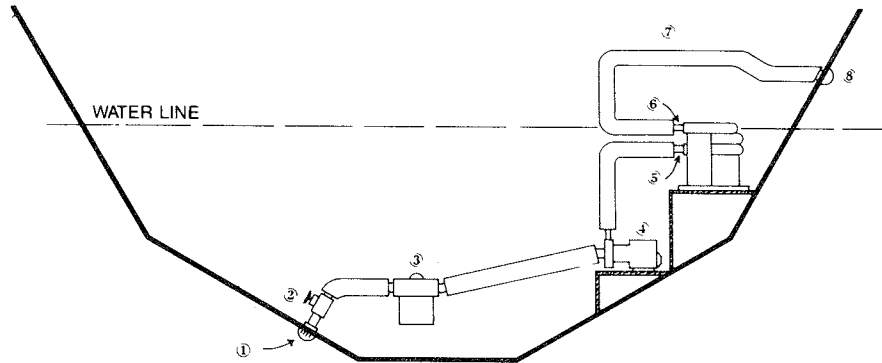
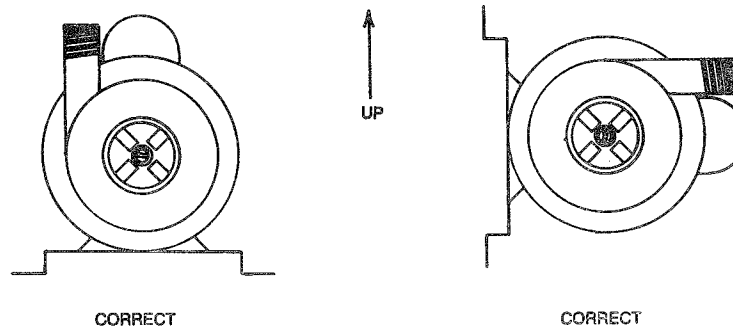

FIGURE 1
FIGURE 2
The AQ-30, AQ-30-2(C) and the AQ-60 come equipped with their own internal chillwater pump. The only time that an external chillwater pump is used is when two or more chillers are manifolded together. In this application, the internal chillwater pumps are used solely to pump water through the chiller coil itself and then on to the chillwater manifold. The main chiller pump then circulates the water to the rest of the system. The AQF(H) chillers use a separate chillwater pump. This should again pump through the chiller tank and then on to the system or manifold. The only acceptable ways of mounting the chiller pump is shown in **Figure 2** below.
1. The pump must be securely mounted at a point in the hull that is below the water line of the boat under all conditions (see **Figure 1**). The position of the pump should be as close to the centerline of the boat as possible, no further forward than the front of the engine compartment and no further aft than the propeller shaft stuffing boxes. The pump should be mounted in a horizontal position and never on its head or end. The only two acceptable positions are shown in **Figure 2**.